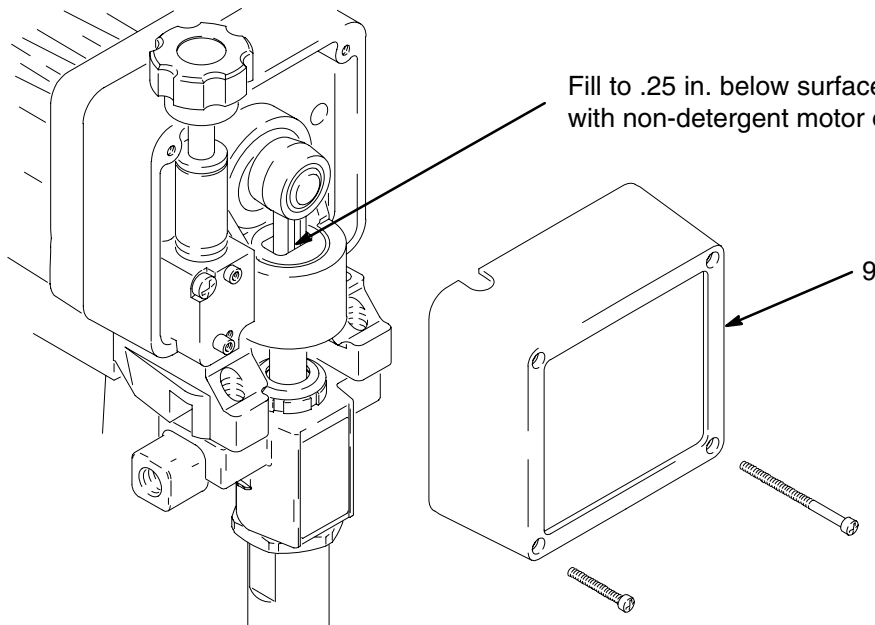

Fig. 7
**MONTHLY:** Remove the front cover (9) and fill the cavity in the connecting rod with non-detergent motor oil 1/4 in. below the surface. See Fig. 7.